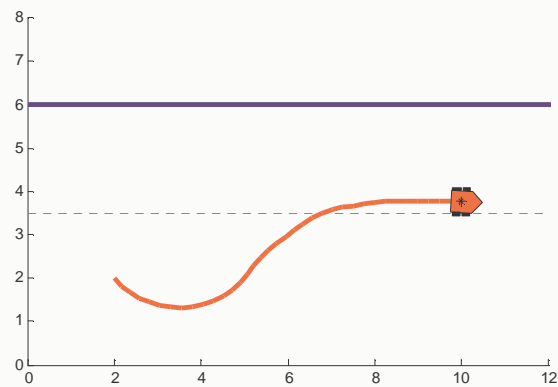

Figure 1: WLS Wallfollower trajectory under PD controller
- You are to implement a least-squares wallfollower `LS_WallFollower(kP, kV)` based upon the `WLS_Line` function from the previous homework assignment. kP and kV correspond to the proportional and derivative gains for your controller. This will control the relative position and orientation of your robot with respect to the wall described in Figure 1.